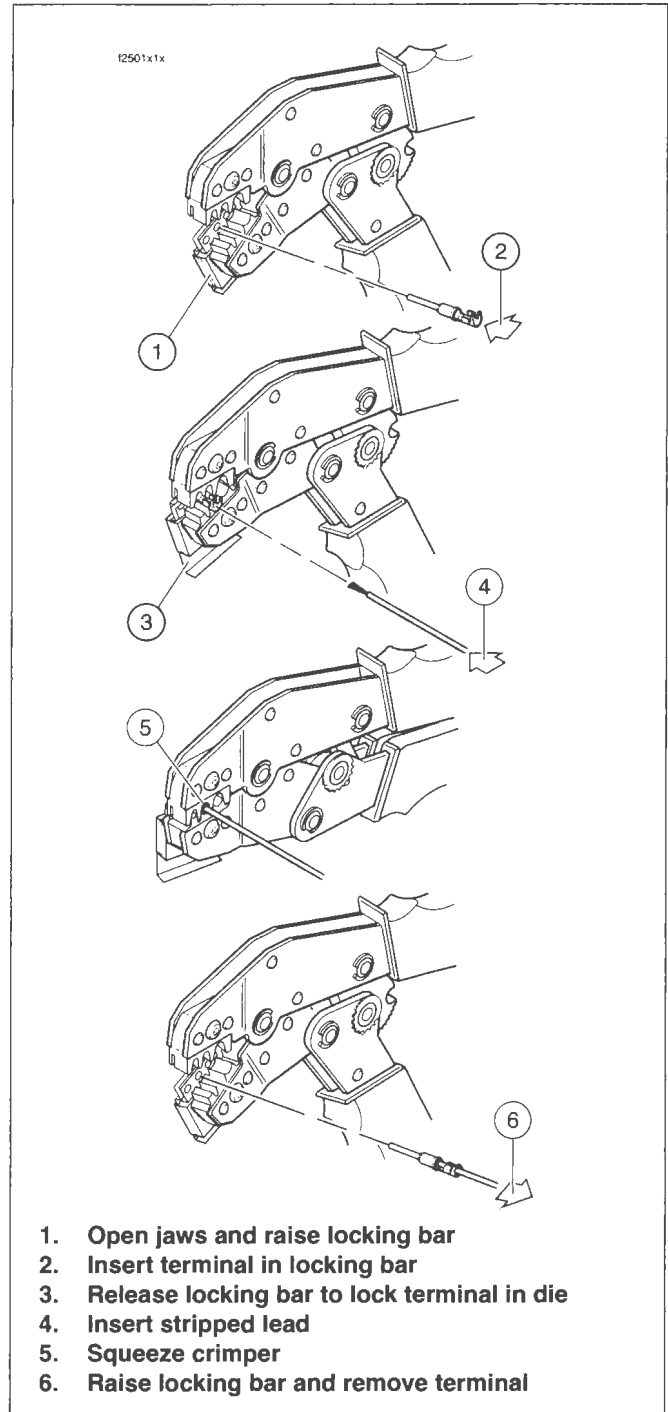

Figure B-19. Crimping a Deutsch Standard Terminal
1. See Figure B-19. Squeeze the handles of the DEUTSCH TERMINAL CRIMP TOOL (HD-39965) to open the jaws. Push the locking bar (1) up.
2. Insert (2) terminal (socket/pin) through hole of the locking bar, so that the rounded side of the contact barrel rests in the die (concave split level area) with the crimp tails facing upward. To match the wire gauge to the crimp tool die, refer to Table B-3.